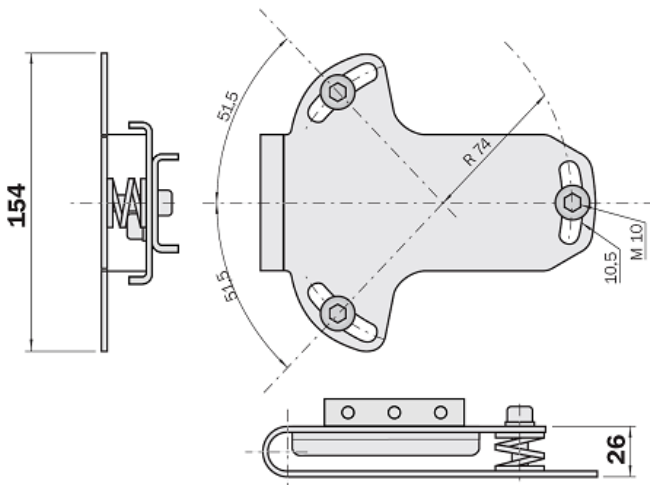

Figure 9: Mounting the TPCC
**NOTE** - Please note that the mounting screws for installing the TPCC in the customer's facility are NOT part of the delivery, since the mounting screws depend on the installation and may vary. However, the TPCC can generally be mounted on the clamping and alignment bracket using three M10 screws (see Figure 9 in section 2.3).
1. The clamping and alignment bracket is already attached to the TPCC. To mount the TPCC with the alignment bracket, drill 3 holes into the mounting surface (diameter ( $\varnothing$ ) 8.5 mm) to hold the clamping and alignment bracket (shown in Figure 9).
3. Insert screws, washers and spring rings (not included) and lightly tighten the screws, as shown in Figure 9.
1. The clamping and alignment bracket is already attached to the TPCC. To mount the TPCC with the alignment bracket, drill 3 holes into the mounting surface ( $\varnothing$  10.5 mm) to hold the clamping and alignment bracket (shown in Figure 9).